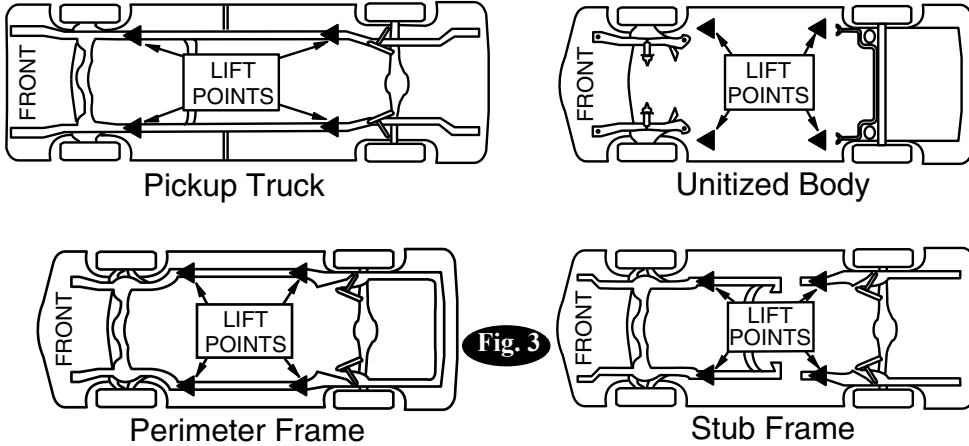
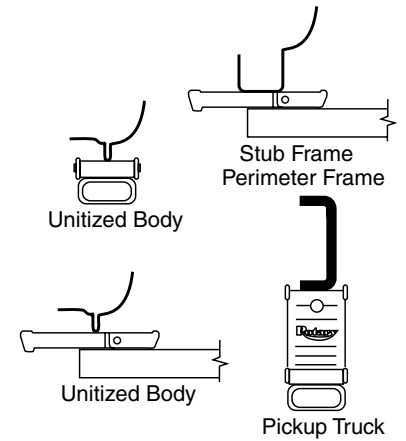

Fig. 3
Fig. 4
5. **Loading:** Position arms and adapters at the vehicle manufacturer's recommended lift points. Use intermediate, high step or optional adapters/extensions for under-body clearance when required, Fig. 3 and Fig. 4.
- B. Adapters are in secure contact with frame at vehicle manufacturer's recommended lift points, Fig. 3 and Fig. 4.
Check Adapter Contact: Stop and check adapters for secure contact at vehicle manufacturer's recommended lift points, Fig. 3 and Fig. 4. Shake car moderately at front or rear bumper.